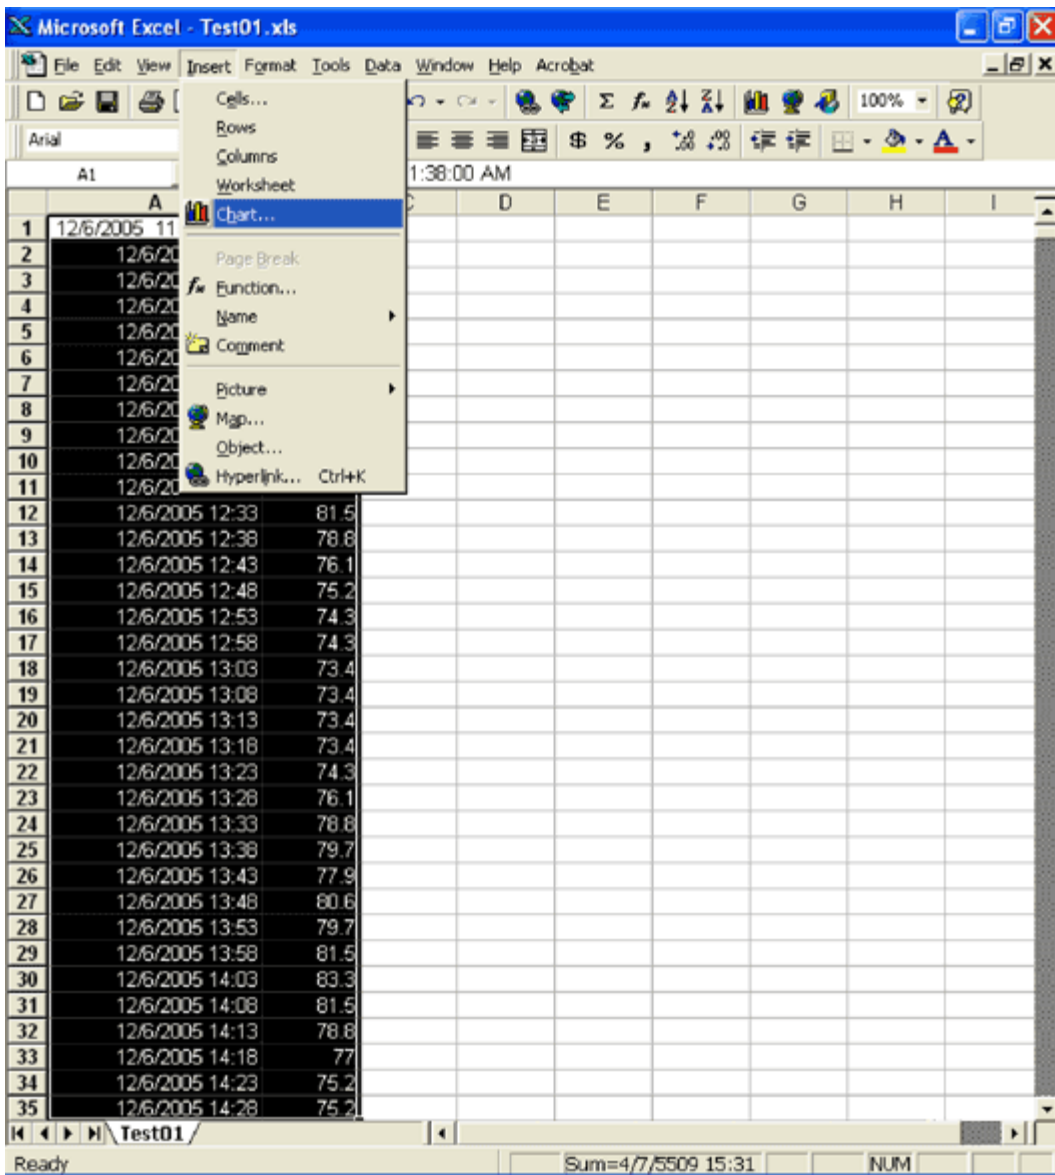

Figure 11. After your data is highlighted, you must select the chart format.
- Next select "Chart" from the menu under "Insert" (Figure 11).